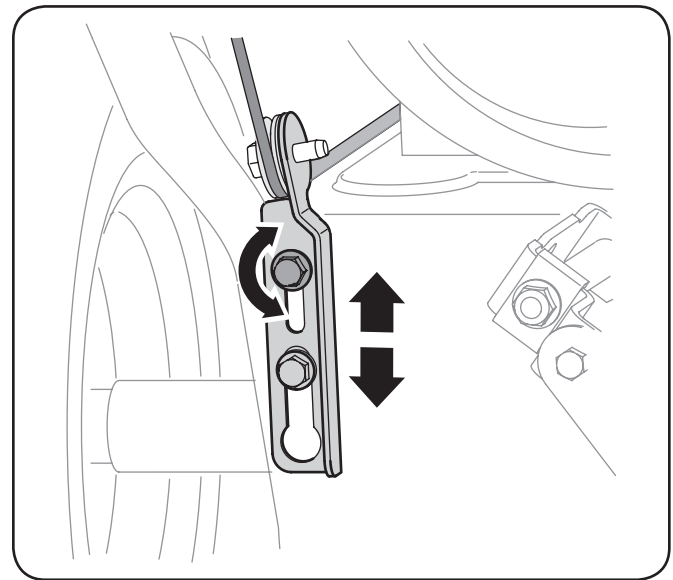

Figure 3-23
4. Allow the auger to remain engaged for approximately ten (10) seconds before releasing the auger control. Repeat this several times.
7. To readjust the control cable, loosen the upper hex screw on the auger cable bracket. See Figure 3-23.